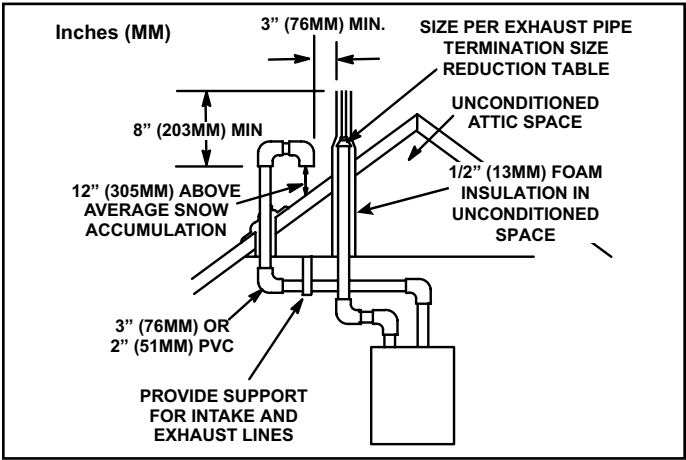

Figure 36. Direct Vent Roof Termination Kit
Intake and exhaust pipes may be routed either horizontally through an outside wall or vertically through the roof. In attic or closet installations, vertical termination through the roof is preferred. Figure 36 through Figure 43 show typical terminations.
- 3. On roof terminations, the intake piping should terminate straight down using two 90° elbows (see Figure 36).